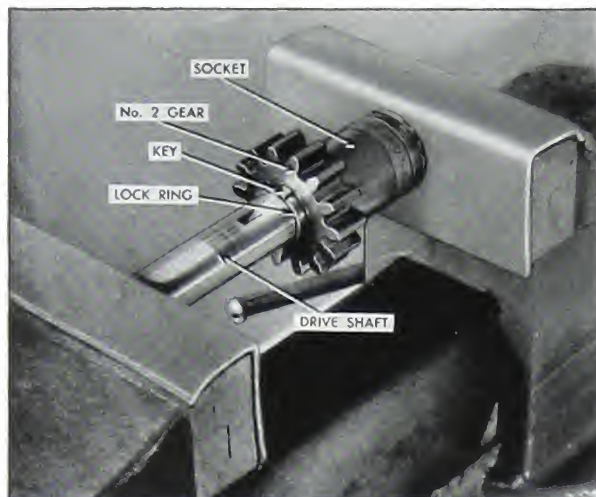

Fig. 5-83. Assembly idler gear on shaft
2. Assemble the Number 2 pump gear over the Woodruff key and press it to the lock ring. The lock ring fits into the recess of the gear. (Fig. 5-83).
responding end of the drive shaft from the drive gear. Fig. 5-83.